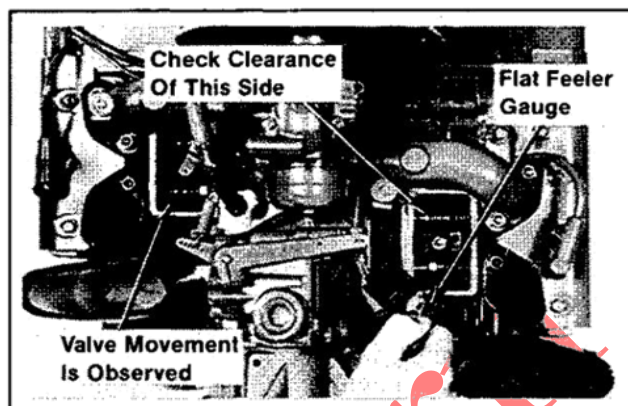

Figure 3-10. Measuring Valve-To-Tappet Clearance.
Every 500 operating hours, remove the breather/valve covers and check valve-to-tappet clearance with a flat feeler gauge. Refer to Figure 3-10. The engine must be cold when checking this clearance.
1. Rotate the flywheel and look into the valve boxes. The valves and tappets will move in only one of the boxes. Measure the valve-to-tappet clearance for the cylinder in which **no movement** was observed—use a flat feeler gauge. Refer to Figure 3-10.